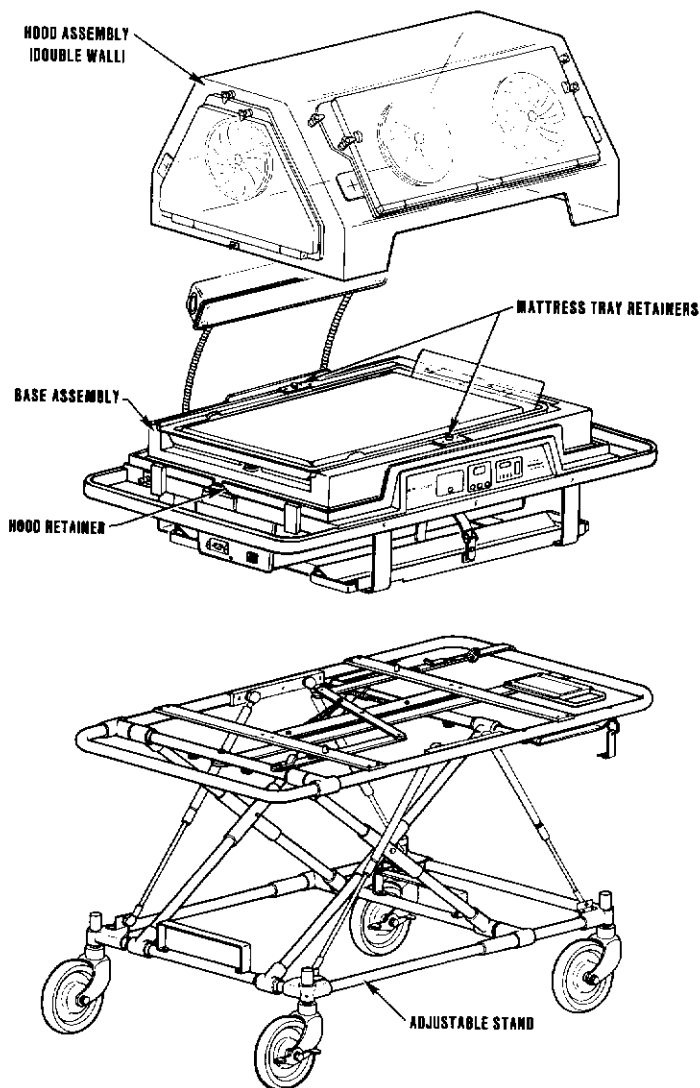

FIGURE 2.1 ASSEMBLY
To install the Transport Incubator on an Air-Shields® Adjustable Stand (accessory) refer to Figure 2.1 and proceed as follows:
- A. INSTALL THE HOOD ON THE BASE ASSEMBLY** as shown in Figure 2.1. Make sure that the Hood is secured to the Base with the two rubber retainers.